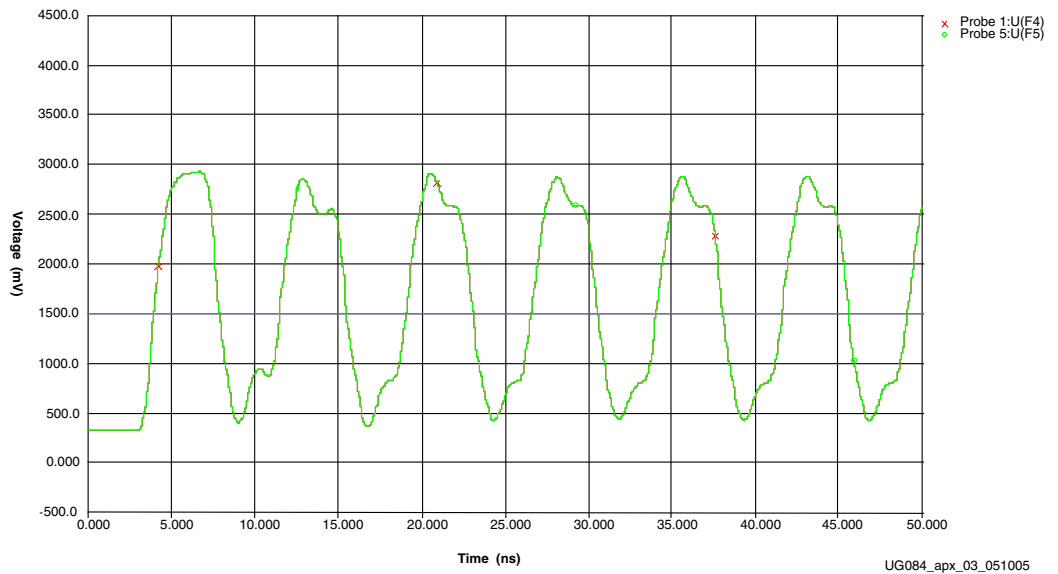

Figure A-3: Both Jumpers in Place (R2 and R242)
- Figure A-3, Both Jumpers in Place (R2 and R242)
In Figure A-3, the waveform shows either destination pin U10.C13 or U10.D2.